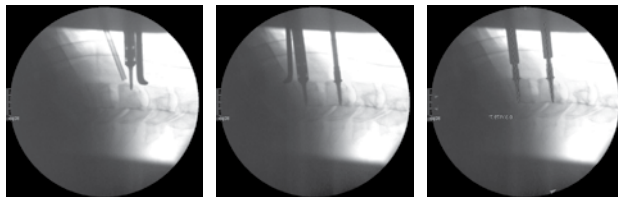

Figure 12
*“For parallel insertion of the cranial pin, I like to place the Pin Distractor over the inserted caudal Distraction Pin and then use the cranial leg of the Pin Distractor as a reference for the angle of insertion for the cranial Distraction Pin” (Figures 12, 13, and 14).*